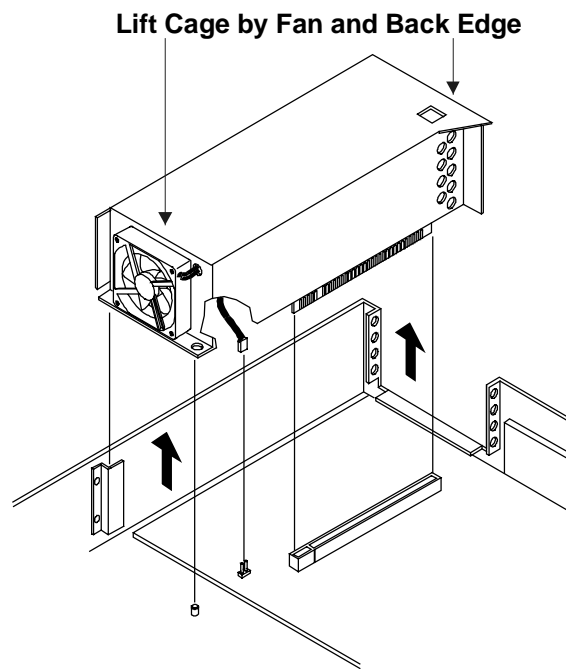

Figure 5-3. Removing the PCI Card Cage
- a. Disconnect the PCI card cage fan from the system board. See Figure 5-3.
- b. Grip the PCI card cage by the fan and back edge, and firmly lift the cage *straight* up to remove it. See Figure 5-3.